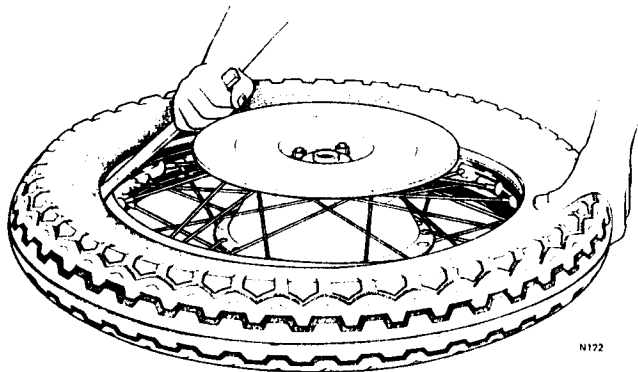

Fig. H10 Levering close to valve whilst pressing opposite bead down into rim
- 6 Insert the first lever between the tire valve and rim at the valve position, press the opposite side of the tire down into the rim well and apply leverage (see *Fig. H10*).
- 7 Insert the first lever between the tire valve and rim at the valve position, press the opposite side of the tire down into the rim well and apply leverage (see Fig. H10).